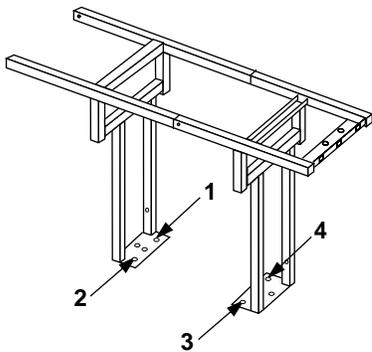

Figure 10
**⚠WARNING: Whichever method used, the base must be bolted down (anchored) at a minimum of four anchoring points (two per side) prior to barbecue assembly. One anchor in each corner of the base plate. Figure 10.**